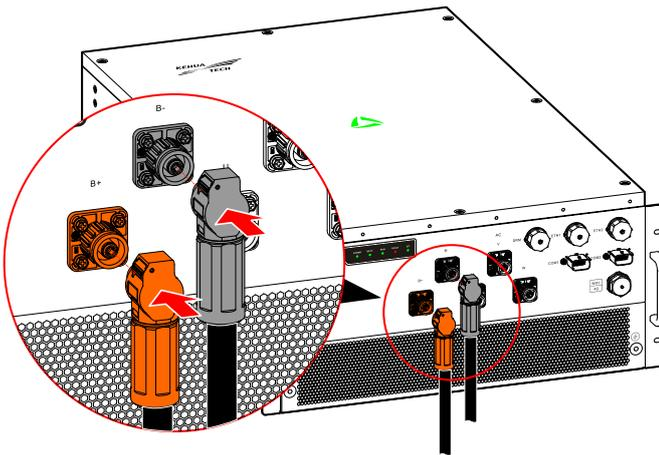

Figure3-22 DC connection diagram
Step 3 Connect the crimped battery cables to the DC ports (B+, B-) of the PCS, as shown in Figure3-22.